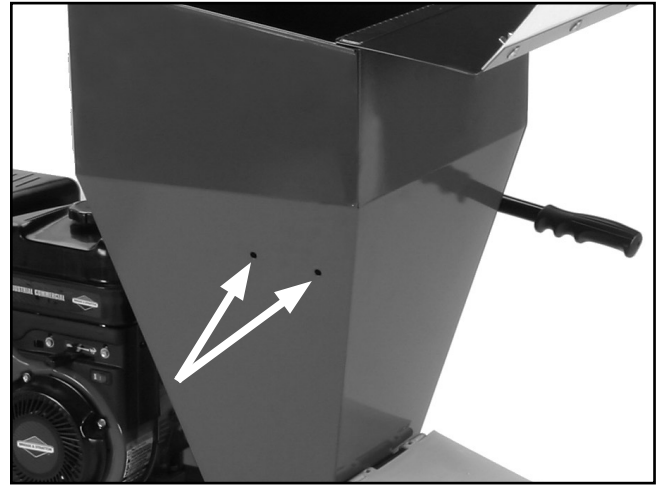

Figure 7. Installing the handles.
6. Insert a Phillips head screw with a flat washer through each hole in the handles. Place three flat washers on each of the screws and insert the handle assembly into the holes in the hopper (see **Figure 7**). Secure the handles with a flat washer, lock washer, and lock nut on each screw.